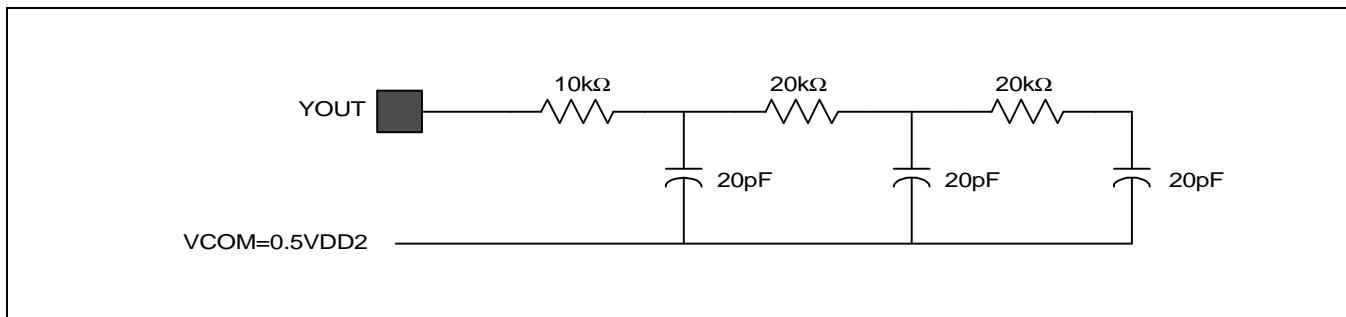

Figure 4. Yout Load Condition
5. Your load condition (refer to Figure 4. Your Load Condition) applied.
3. Yout load condition (refer to Figure 4. Yout Load Condition)